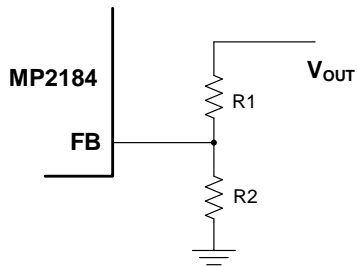

Figure 7: Feedback Network
The external resistor divider sets V_{OUT} (see Figure 7). Select the feedback resistor ($R1$) that reduces the V_{OUT} pin's leakage current (typically between 100Ω and $200k\Omega$). There is no strict requirement on the feedback resistor. Select $R1$ to exceed $10k\Omega$. $R2$ be estimated with Equation (2):
Figure 7 shows the feedback circuit.